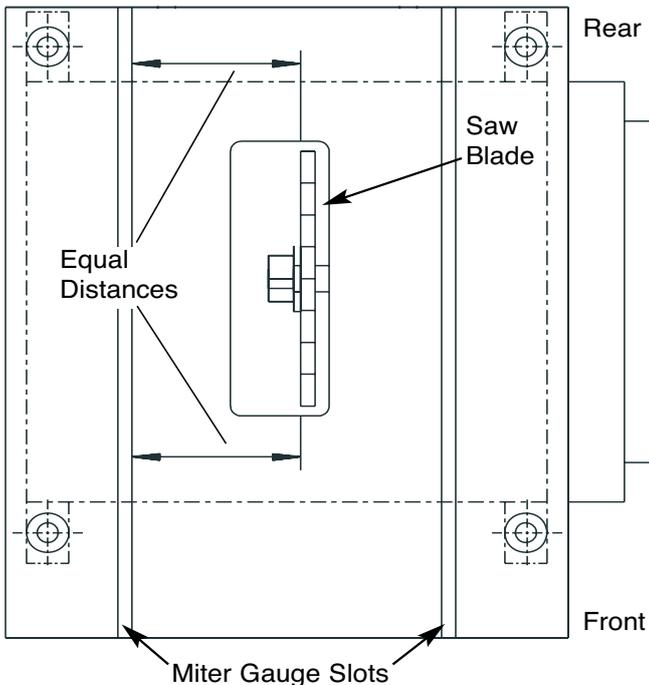

Figure 21 - Aligning Miter Slots to Blade
Refer to Figures 21, 22 and 23.
- Gauge this tooth with the dowel rod. If the tooth is in the same position, relative to the miter gauge slot, the table is parallel with the blade. In short, the miter gauge slots must be parallel with the blade. This means that when measuring distance between blade and miter gauge slot at the front and rear of the blade, the distances will be equal (see Figure 21).